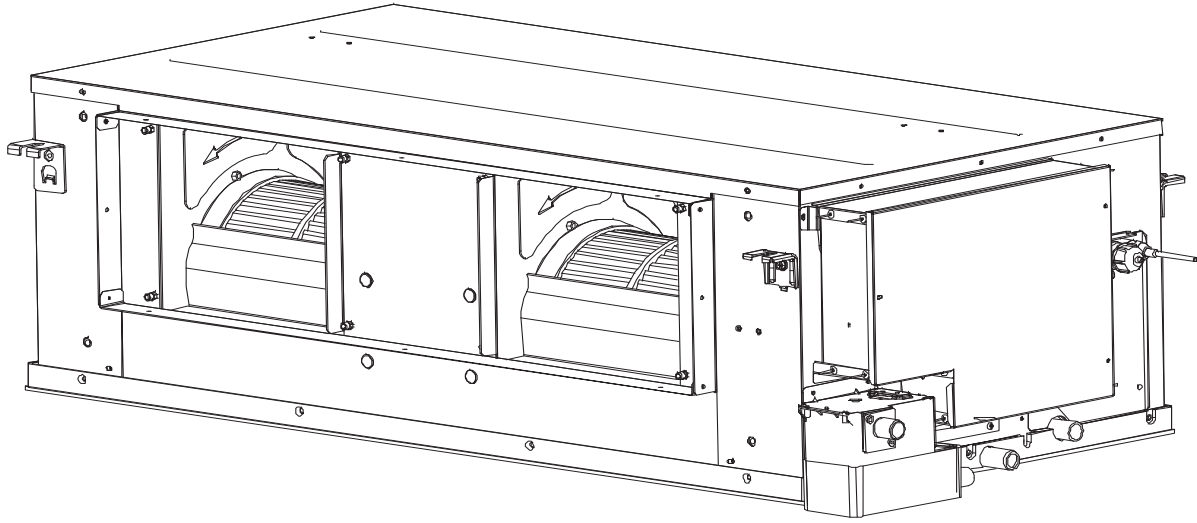

Fig. 30 —Fan Disassembly 036-054
Fig. 30 provides an example of the unit.
3. Press **TEMP. UP** or **TEMP. DOWN** to choose the address you want to set, see Fig. 30. Press MENU/OK to send this address to the IDU.